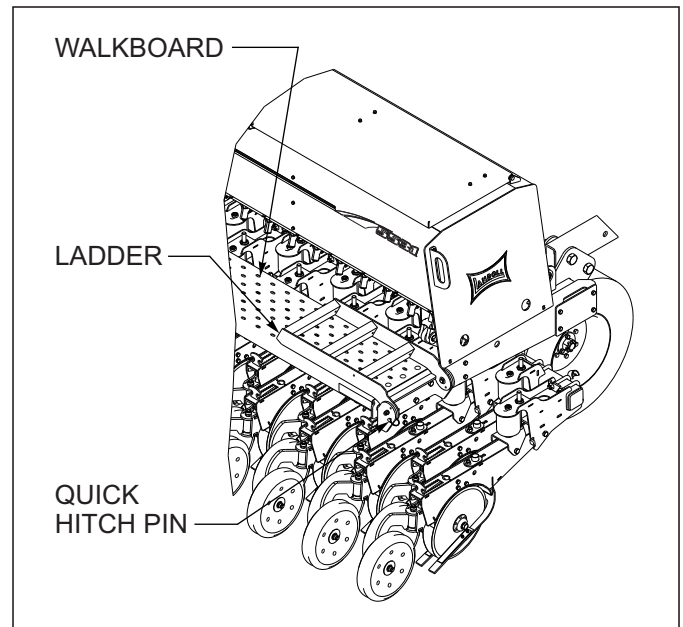

Figure 4-31: Ladder Location During Transport/Planting
- a. The ladder should be in the raised position (laying across the top of the walkboard) and secured with the pin (*See Figure 4-31.*)